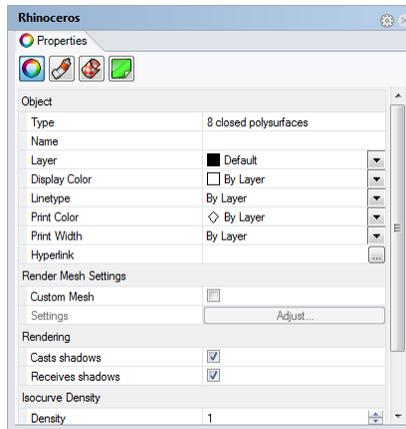

Figure 83: Property dialog box indicating that 8 closed Polysurfaces have been selected
2. Select **all 8 solids** (by **clicking** on them or using **Edit|Select Objects|Polysurfaces**), and select **Edit|Object Properties (F3)**. The **Property** dialog box indicates that the selected **polysurfaces** constitute **8 closed polysurfaces** (Figure 83). Again, **if any of the polysurfaces is not closed** (i.e. not a Solid), join them into solids.